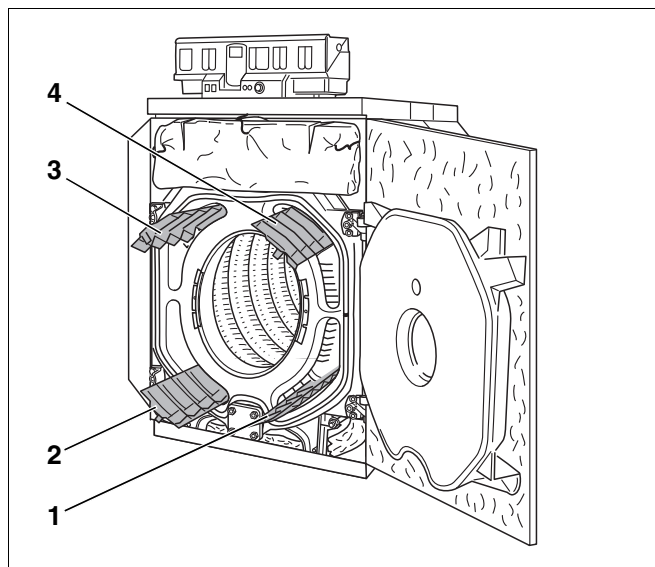

Fig. 72 Removing the hot gas baffle plates
- Take the hot gas baffle plates forwards out of the hot gas flues (Fig. 72, [1] to [4]).